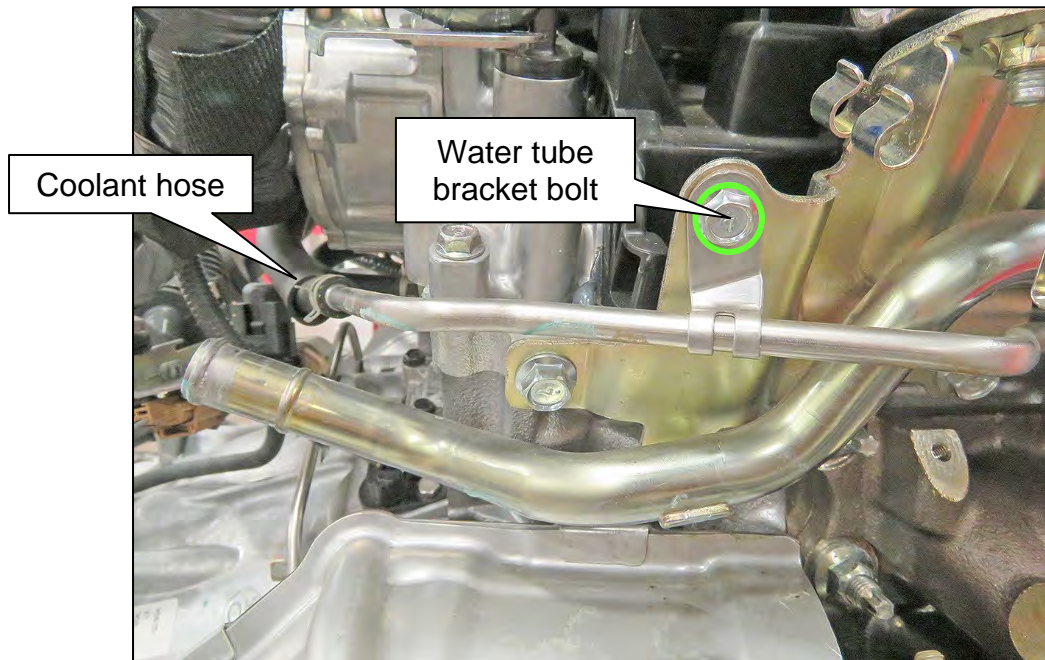

Figure 62
96. Reinstall the water tube bracket bolt (Figure 62) and torque to specification.
97. Reinstall the coolant hose and its spring clamp (Figure 62).